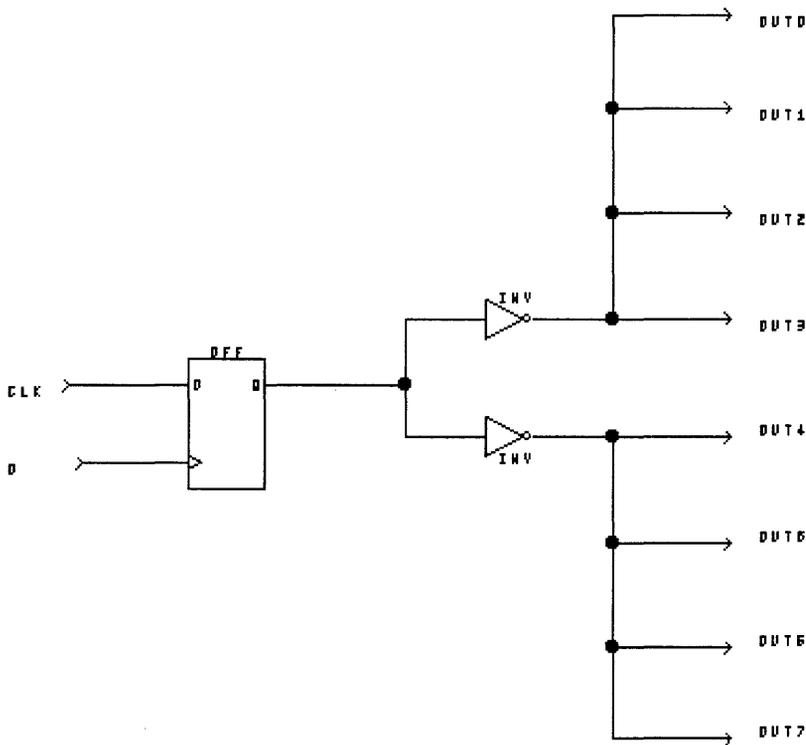

Figure 5-27 Circuit demonstrating split buffering
Figure 5-27 is an example of split buffering. Without the buffers, the DFF drives a fanout of 8. As configured in the illustration, the DFF drives a fanout of 2, and each buffer drives a fanout of 4.
**Note** – Adding buffers introduces a logic cell delay to the net. This added delay must be balanced against the gain in reducing the fanout. Simple split buffering (as demonstrated in Figure 5-27) is generally employed only with fanouts of 16 or greater.